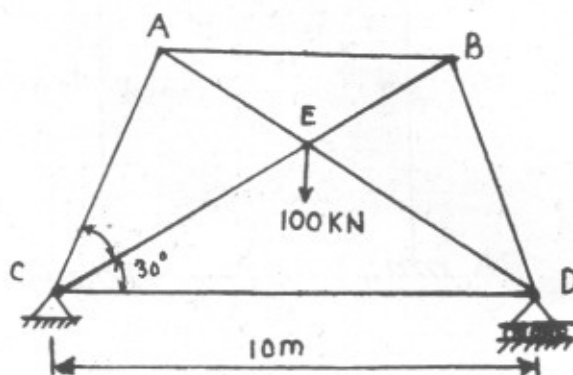

Fig. 6
6. Find the forces in the members of the redundant truss shown in Fig. 6 under the action of given forces. Value of $L/A = 0.16/\text{mm}$ for all members. [16]